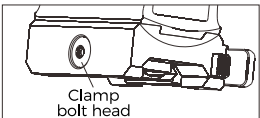

Fig4-2
1) There is one Torx socket at the end of clamp adjusting bolt on the side of the mount. (See Fig 4-2) Before installation, loosen the screw to release clamp using included Torx wrench, and then: